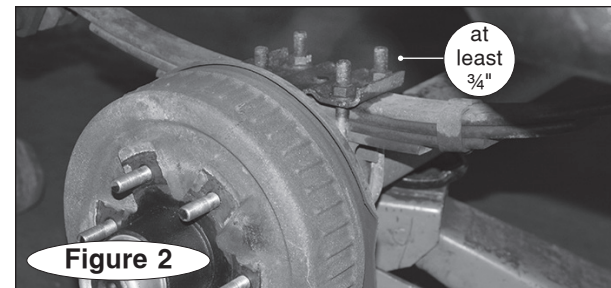

Figure 2
- Ensure that the U-bolts attaching the trailer's leaf springs to the axles have at least $\frac{3}{4}$ " of thread showing beyond the nut (Figure 2). **Note:** If you need longer U-bolts, order **part 2630** for the 3" axles or **part 2635** for $3\frac{1}{2}$ " axles. You will need one pair per axle.